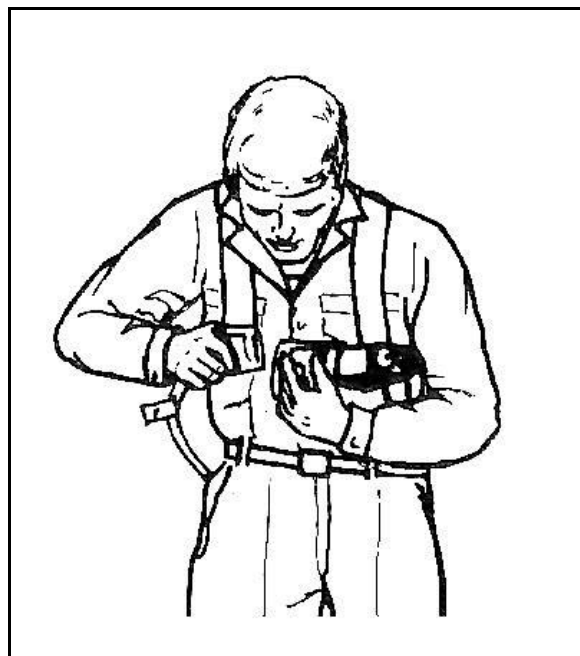

Figure 11-55. Donning the Backpack
- **Step 4.** After the harness has cleared your arms, lean forward, still in the crouched position. Lower the unit to your back. While still in this position, fasten the chest buckle (Figure 11-55).